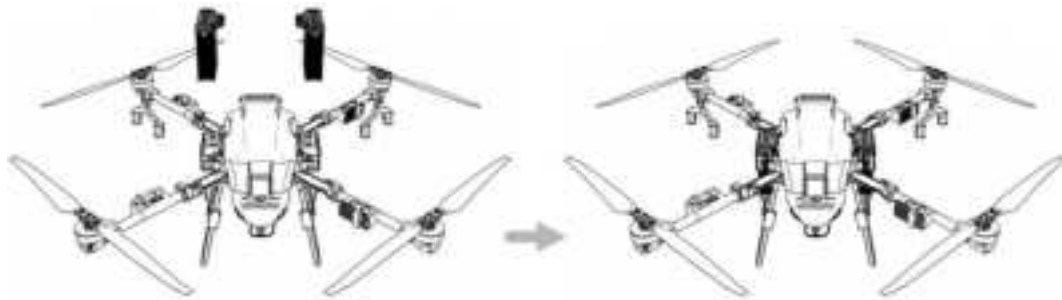

Figure 1-36 Insert the battery
**Step 2:** Connect the battery output port to the body, and the battery is locked in when you hear a “click”. See Figure 1-36.